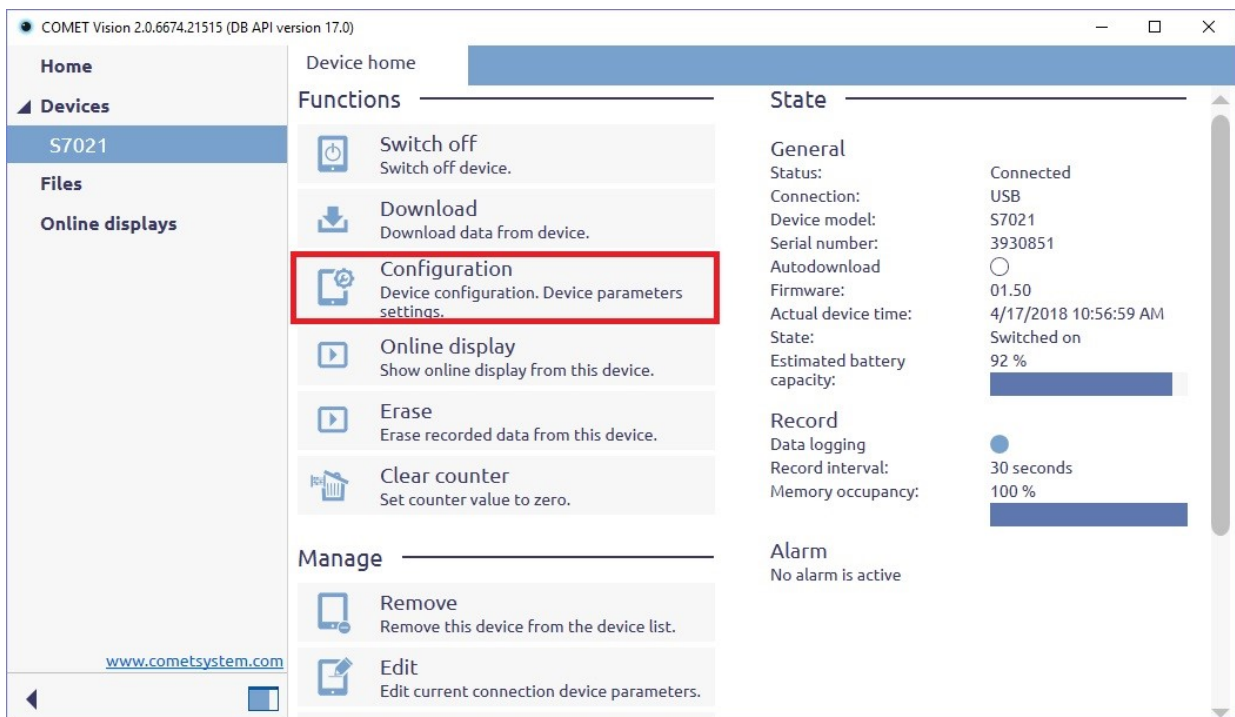
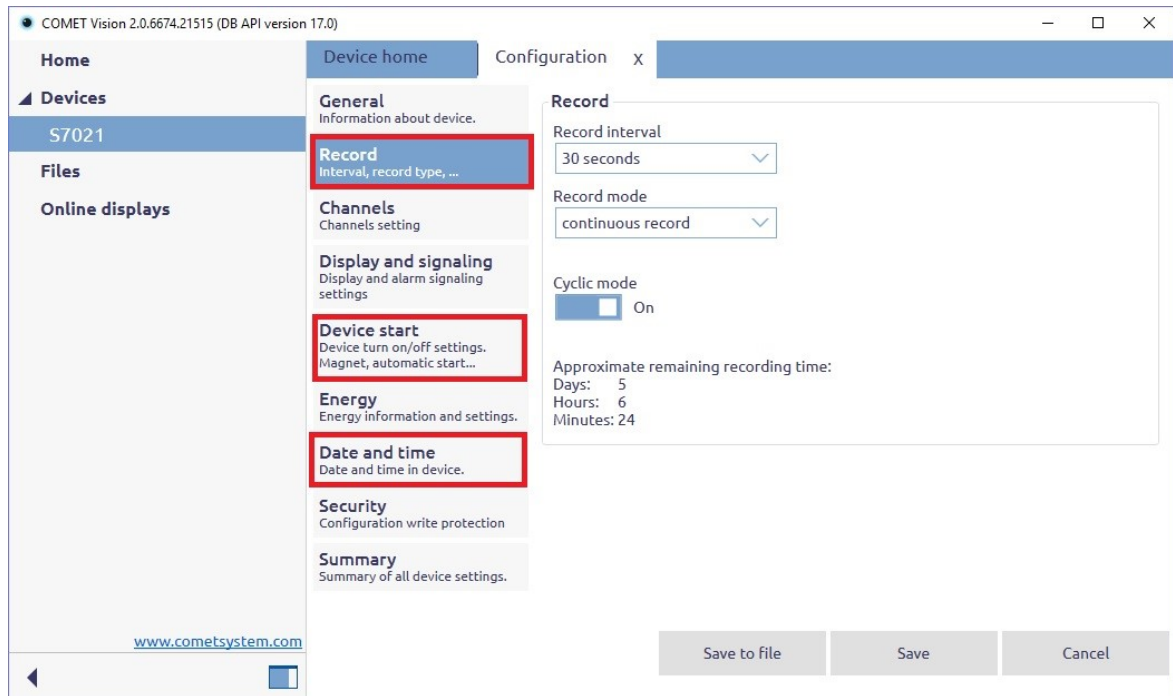

Fig. 2 – Device home
Fig. 3 – Configuration – select item Record
After connection of data logger to the computer (see item 2) you can change the device settings by click on the button *Configuration* (Fig. 2).
- data logger switch ON – set parameter *Device is turned on* to *Yes* in the configuration item *Device start* (fig. 3). Note: Data logger can be switched on by second way by using function *Switch on/off* on *Device home* (fig. 2).
- setting of logging interval – set parameter *Record interval* in the configuration item *Record* (fig. 3)
Use the function *Download* on *Device Home* (fig. 2). The recorded data will be downloaded, saved to the file and displayed in the program (fig. 4). It is possible to choose if data logger memory will be erased immediately or recorded data will be kept in data logger memory.